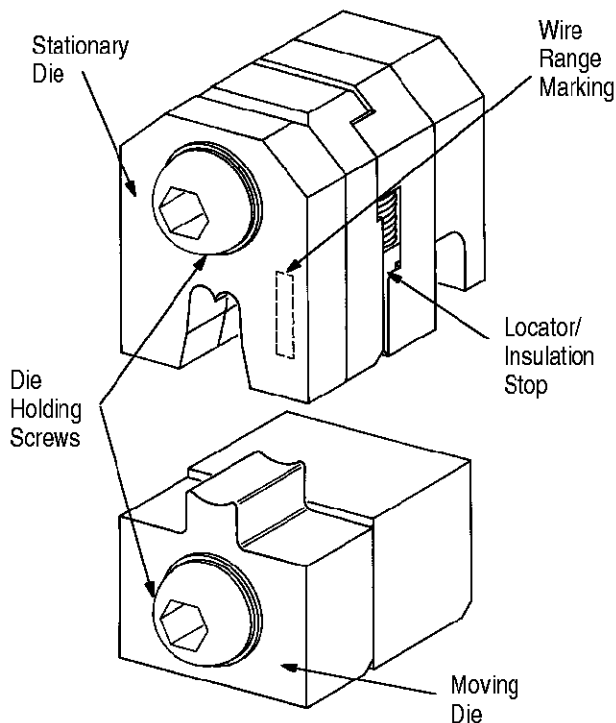

Figure 1
AMP\* Interchangeable Crimping Die Assemblies 58373-1 and 58374-1 (see Figure 1) are designed to be used in AMP Hand Crimping Tool 69710-1 and AMP Pneumatic Tools 69365, 69365-2, and 69365-3 to crimp AMP .140 MATE-N-LOK\* loose piece pin and socket contacts listed in Figure 2. Die set 58373-1 crimps No. 10 AWG wires and die set 58374-1 crimps 14-12 AWG wires. Read these instructions thoroughly before starting.
Each crimping die assembly consists of a moving die and a stationary die, as shown in Figure 1. The moving die is positioned in the lower portion of the
2. Position stationary die in stationary die holder and moving die in moving die holder. Refer to Figure 1. Fasten die holding screws enough to hold dies in place but do NOT tighten fully.